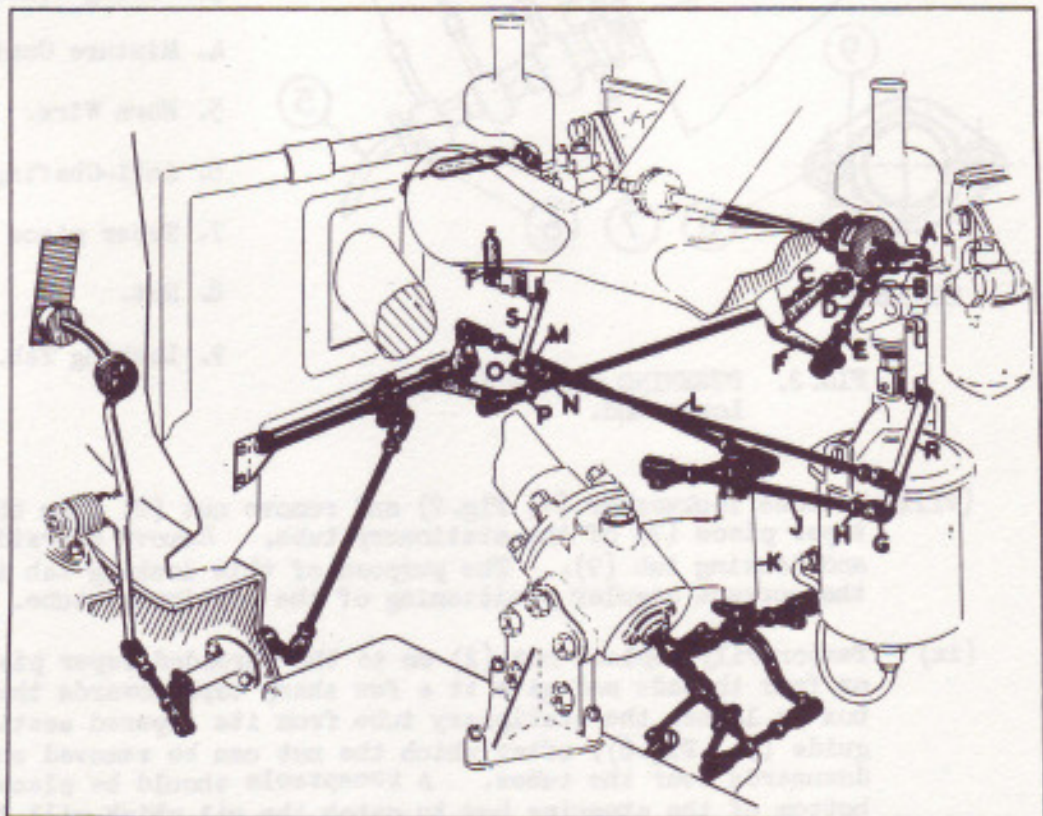

FIG. 1. CONTROL LEVERS AND RODS.
- (ii) Disconnect throttle control rod, (D, Fig.1) from lever (A) of the throttle connecting shaft.
- (iii) Remove bell-crank control lever (F) from its anchorage on the air intake casting by removing the nut and washers. Collect bush.
- (xii) Remove the two nuts and washers securing bracket (K, Fig.1) to steering box, and detach it from the box. Remove clip, attached to the oil feed pipe, from the stud of the steering box end cover